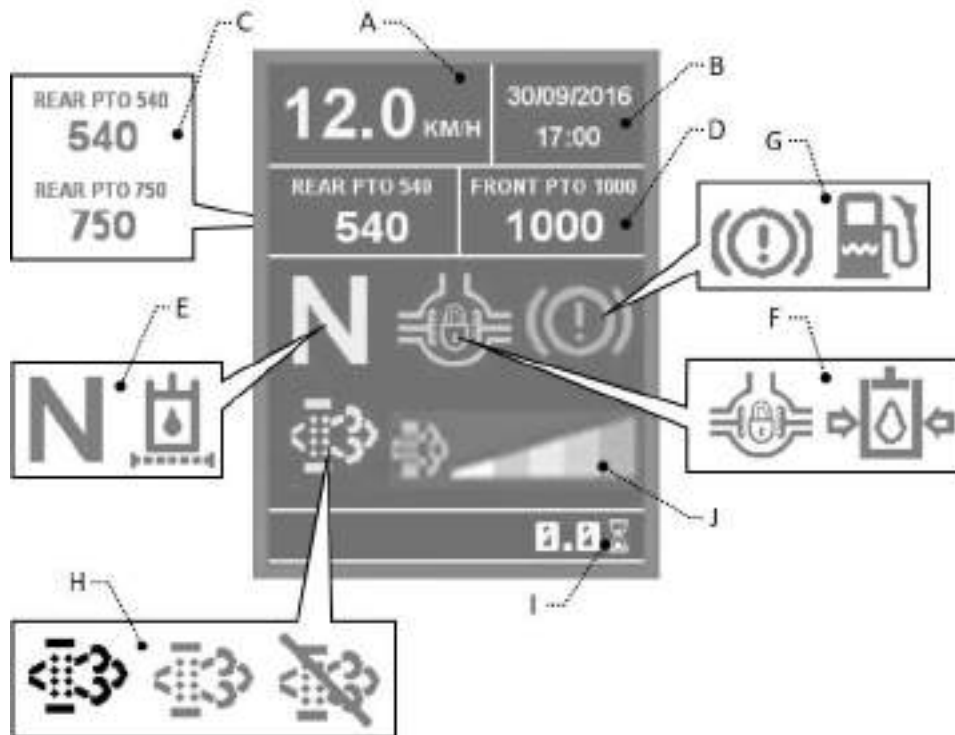

Fig. 52
C) Rear PTO drive shaft revolutions, it indicates the number of revolutions of the rear PTO drive shaft when the PTO shaft is engaged. Using the mode selector lever, you can choose between two speeds: 540 or 750. The selected operation mode is displayed above the current speed value for the rear PTO drive shaft (see Fig. 52).